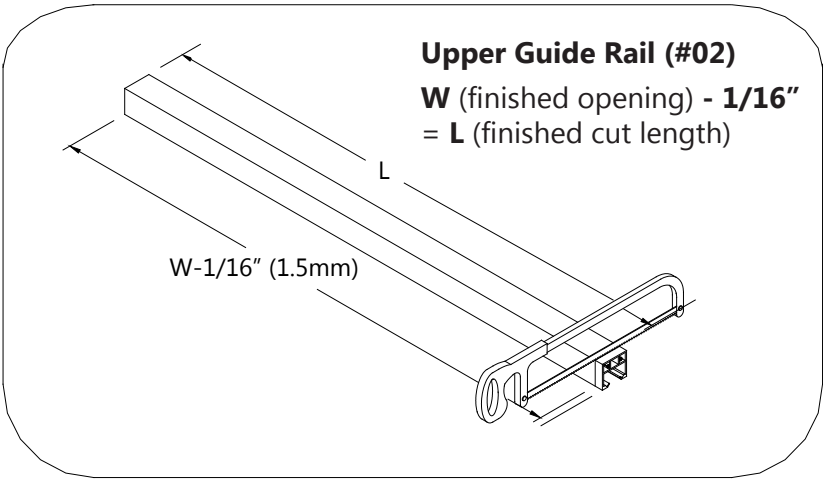

Fig 2a
2. Using a miter saw or hacksaw, cut the **Upper Guide Rail (#02)** 1/16" shorter than the top dimension **W** from step #1. (**W** - 1/16" = finished cut length **L**) ( see Fig 2a)
See Fig 2a & 2b for details